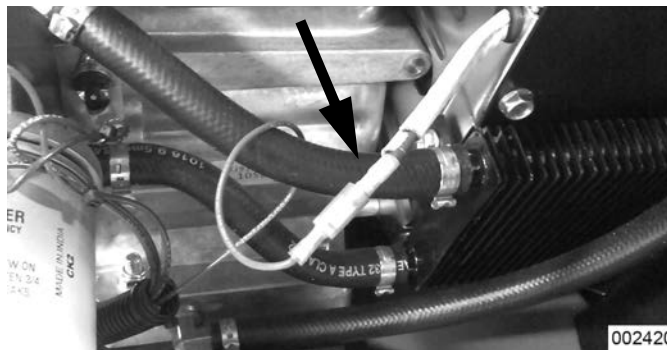

Figure 4-39. Wire 18 Connection
1. See Figure 4-39. Disconnect Wire 18 at the bullet connector.